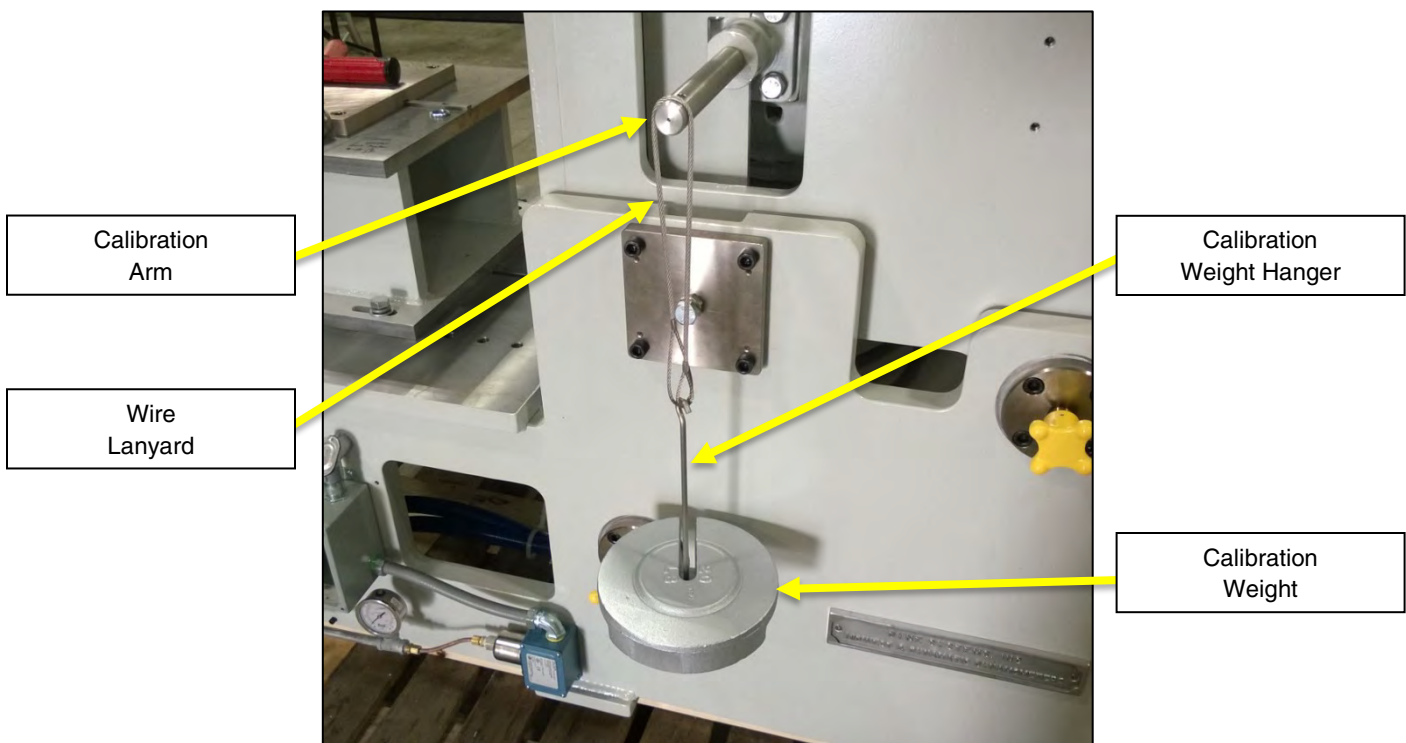

Fig. 4
2. Place the hook from the calibration weight hanger through the two small loops in the wire lanyard. Form a large loop in the lanyard and place it over the machined groove in the calibration arm. Carefully let the weight hanger hang freely from the calibration arm (Figure 4).